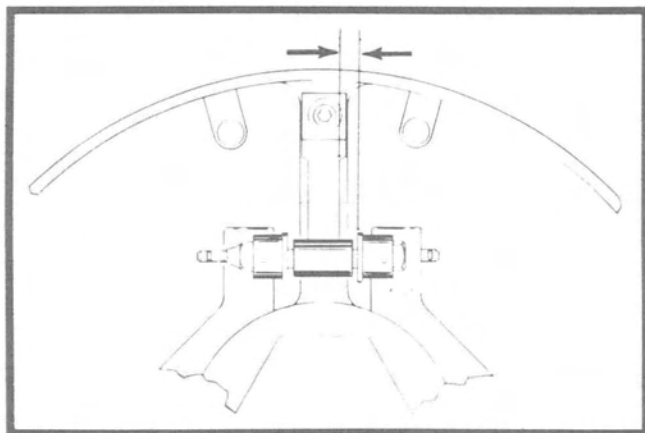

Figure 8. Roller Arm/Ramp - No Contact
1. Look into clutch and rotate it clockwise and counter-clockwise (a flashlight may be necessary to see inside of clutch). Look at inside surface of the roller arm; there must not be any contact between roller arm and ramp. (Figure 8)